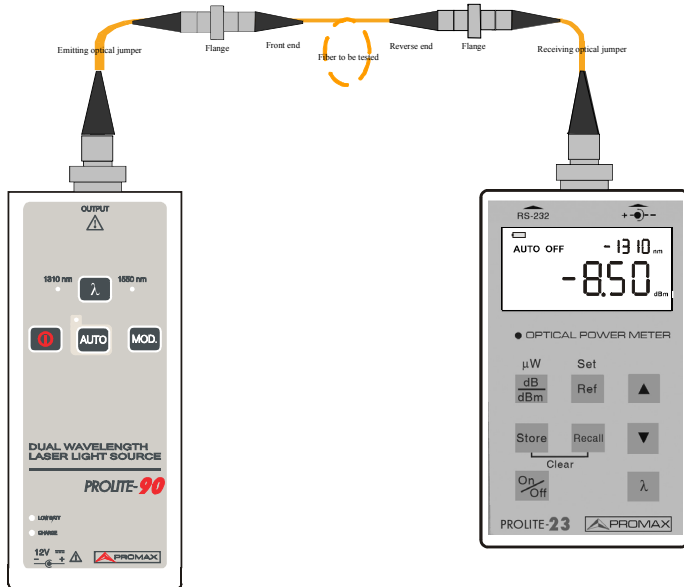

Figure 14.- Forward loss testing
3. Connect laser sources and optical power meters to their respective patch panel ports using the test jumpers, as shown in figure 14.